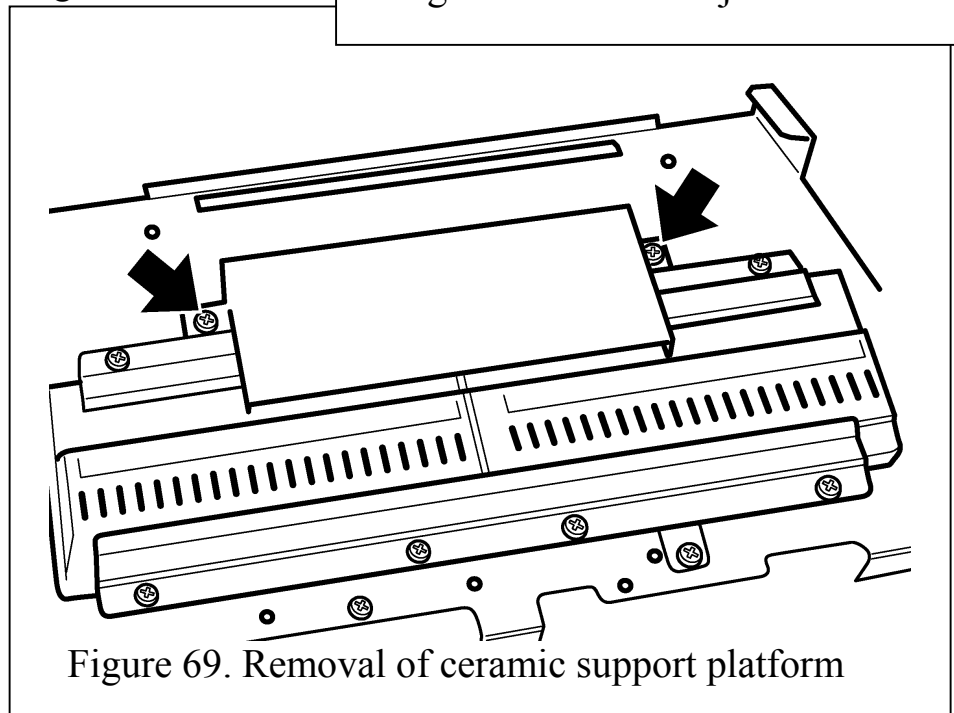

Figure 69. Removal of ceramic support platform
4. Remove the ceramic support platform by detaching 2 screws (See figure 69)